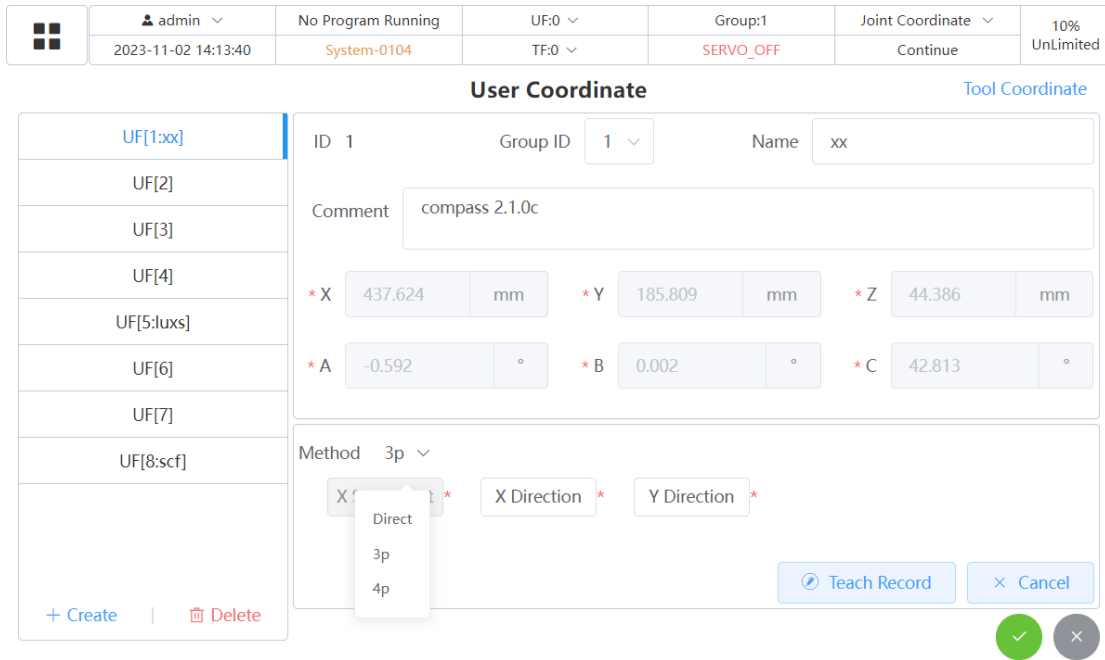

Fig. 2.26 User Coordinate System Setting Window
1. Click "Menu Button" → "Coordinate System" → "User Coordinate System" to enter the interface as shown in Fig. 2.26, and Choose 3p/4p as shown in the figure below.